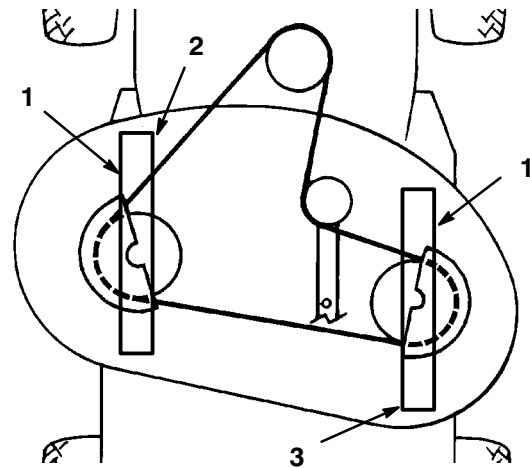

Figure 13
4. Carefully rotate blades so they are facing front and rear (Fig. 13).
5. Measure between the tip of the front blade (Fig. 13) and the tip of the rear blade to the flat surface. If the front blade tip is not 0-1/8 in. (0-3.2 mm) lower than the rear blade tip adjust front adjustment link.